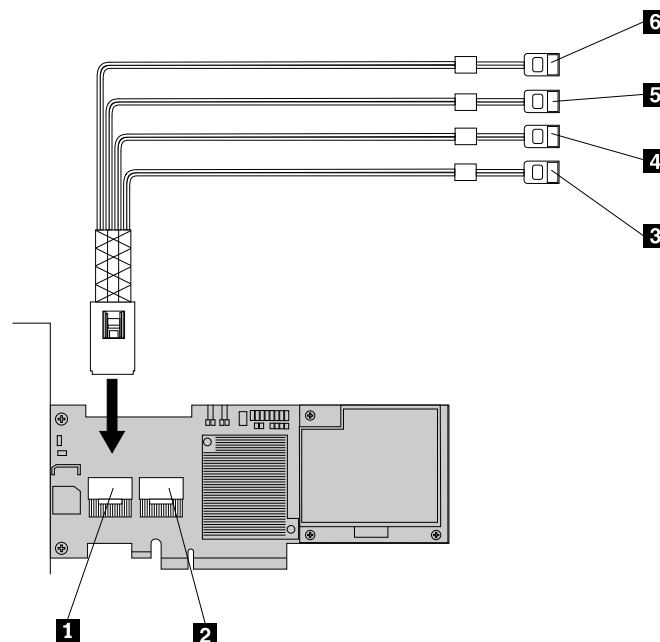

Figure 57. Connecting the mini SAS signal cables
7. Connect the mini SAS signal cable to the mini SAS signal cable connector 0 on the RAID card. See Figure 57 “Connecting the mini SAS signal cables” on page 91.